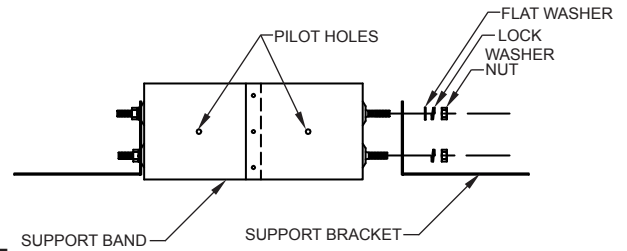

FIG. 15
3. Assemble TGAS as shown in FIG 15. Tighten nuts finger tight only.